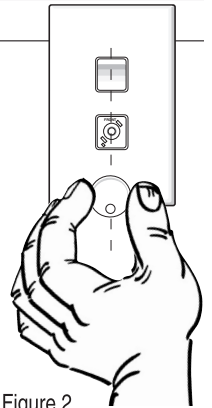

Figure 2
- 2 The module knob should then be fitted, ensuring that the dimple is facing downwards and lined up with the vertical (see figure 2).